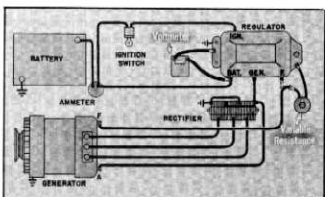

Fig. 43
2. Connect a voltmeter in parallel with the battery (fig. 43) and operate the engine at idle. Gradually cut out the resistance but **DO NOT ALLOW VOLTAGE TO EXCEED 9 VOLTS.**